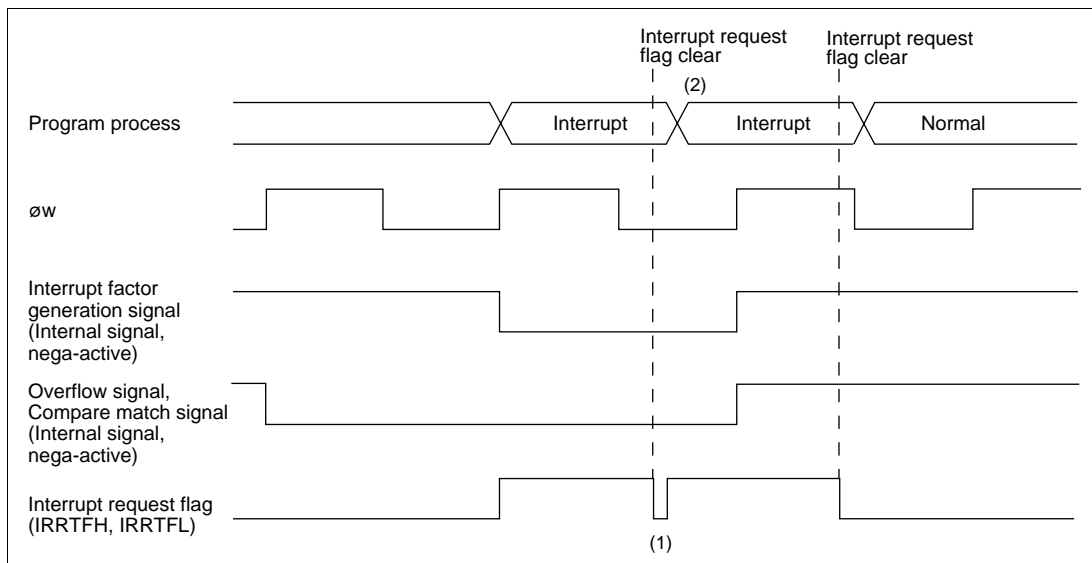

Figure 9.7 Clear Interrupt Request Flag when Interrupt Factor Generation Signal is Valid
When $\phi w/4$ is selected as the internal clock, “Interrupt factor generation signal” will be operated with ϕw and the signal will be outputted with ϕw width. And, “Overflow signal” and “Compare match signal” are controlled with 2 cycles of ϕw signals. Those signals are outputted with 2 cycles width of ϕw (figure 9.7)
In active (high-speed, medium-speed) mode, even if you cleared interrupt request flag during the term of validity of “Interrupt factor generation signal”, same interrupt request flag is set. (figure 9.7 (1)) And, you cannot be cleared timer overflow flag and compare match flag during the term of validity of “Overflow signal” and “Compare match signal”.
For interrupt request flag is set right after interrupt request is cleared, interrupt process to one time timer FH, timer FL interrupt might be repeated. (figure 9.7 (2)) Therefore, to definitely clear interrupt request flag in active (high-speed, medium-speed) mode, clear should be processed after the time that calculated with below (1) formula. And, to definitely clear timer overflow flag and compare match flag, clear should be processed after read timer control status register F (TCSR F) after the time that calculated with below (1) formula. For ST of (1) formula, please substitute the longest number of execution states in used instruction. (10 states of RTE instruction when MULXU, DIVXU instruction is not used, 14 states when MULXU, DIVXU instruction is used) In subactive mode, there are not limitation for interrupt request flag, timer overflow flag, and compare match flag clear.